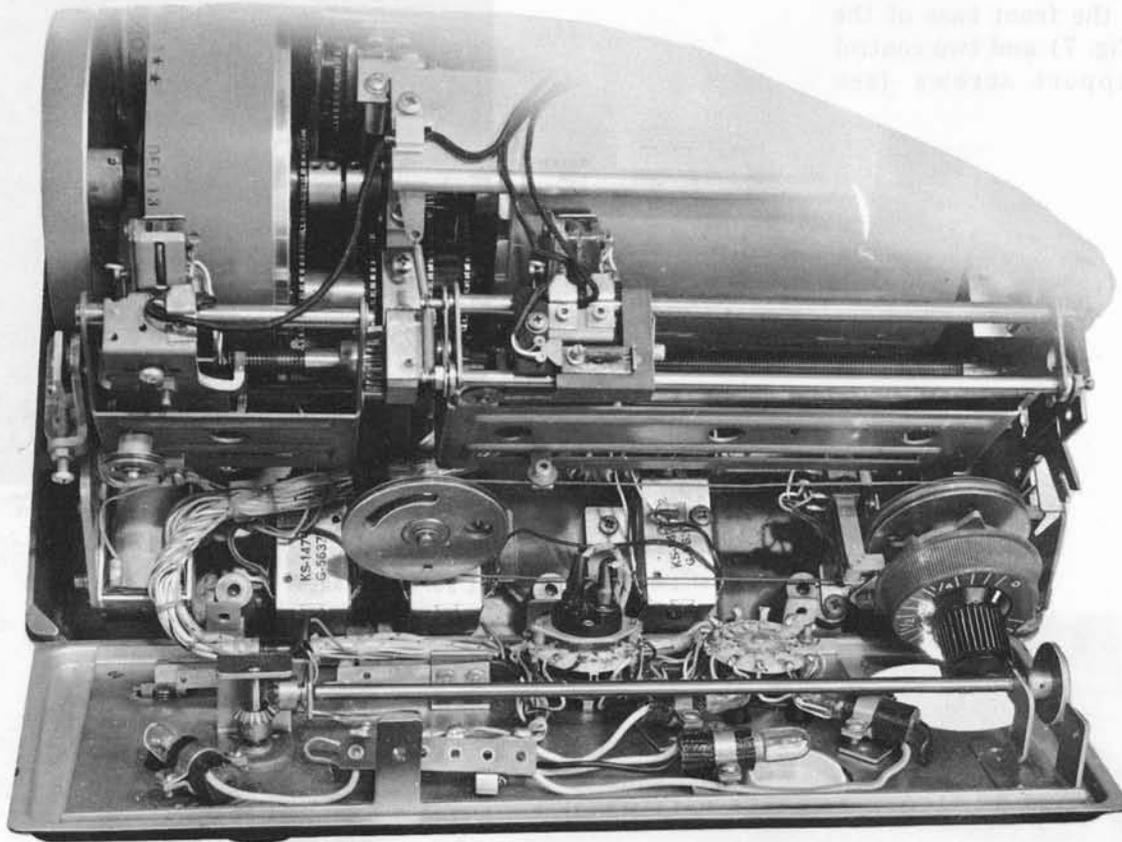

Fig. 9 - Control Panel Removed
1.14 The control panel removed is shown in Fig. 9.